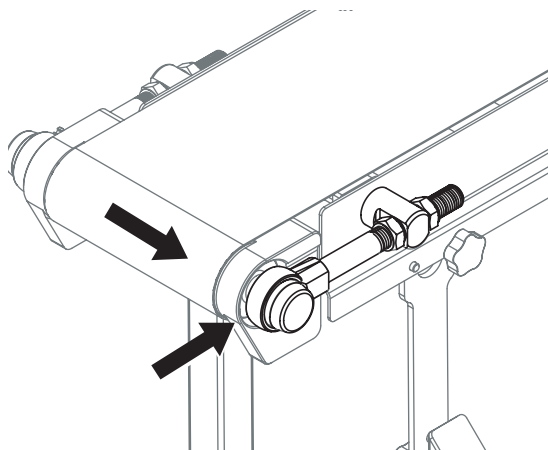

Figure 54
- a. Loosen the nut to shorten the length of the idler tail shaft and bring the belt closer to that side of the conveyor (**Figure 54**).